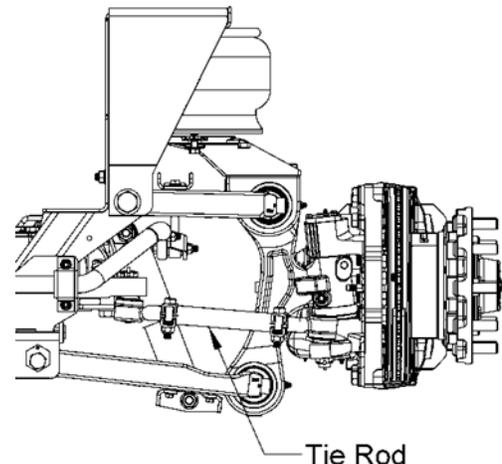

Figure 6 – Tie Rod
1. With the engine on, lightly rock the steering wheel and have an assistant observe any looseness in the two mating tapers or any movement of the stud nut at both ends of the tie rod. (**Figure 6**). If looseness is found in either place go to step 2, otherwise skip to step 3.
steered straight ahead grab the tie rod near its end and try to move the socket in a direction parallel to the ball stud axis (**Figure 6**). Be sure to only apply hand pressure to the tie rod.
6. Check the tie rod clamp orientation (**Figure 6**).